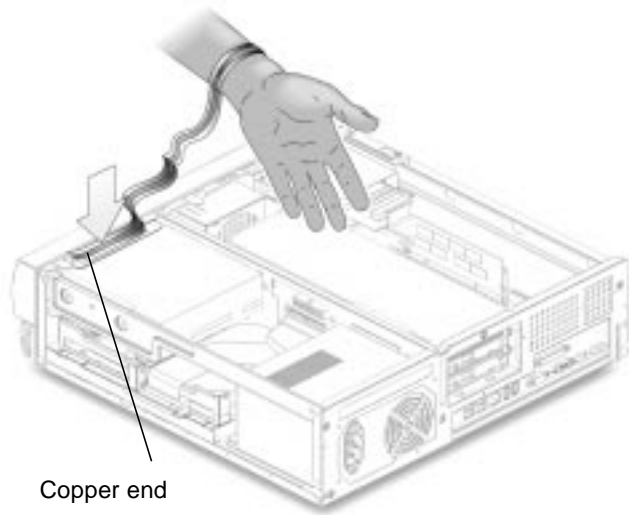

FIGURE 5-3 Attaching the Wrist Strap to the Chassis
3. Attach the copper end of the wrist strap to the chassis (FIGURE 5-3).